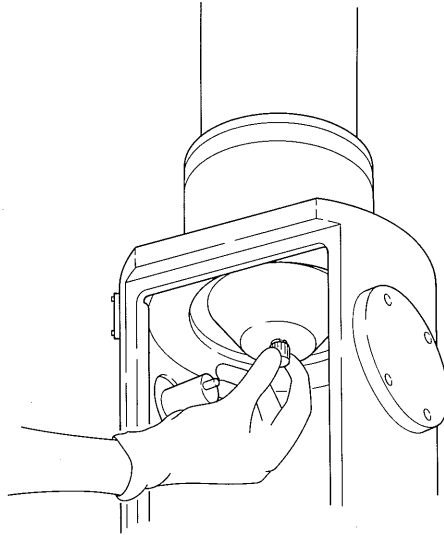

Fig. 6.5-2 Taking out Objective Lens Aperture Holder
3. Place the supplied fixed aperture removing tool to the objective lens aperture holder, turn it to counterclockwise as seen from the bottom and take out the objective lens aperture holder (refer to Fig. 6.5-2)